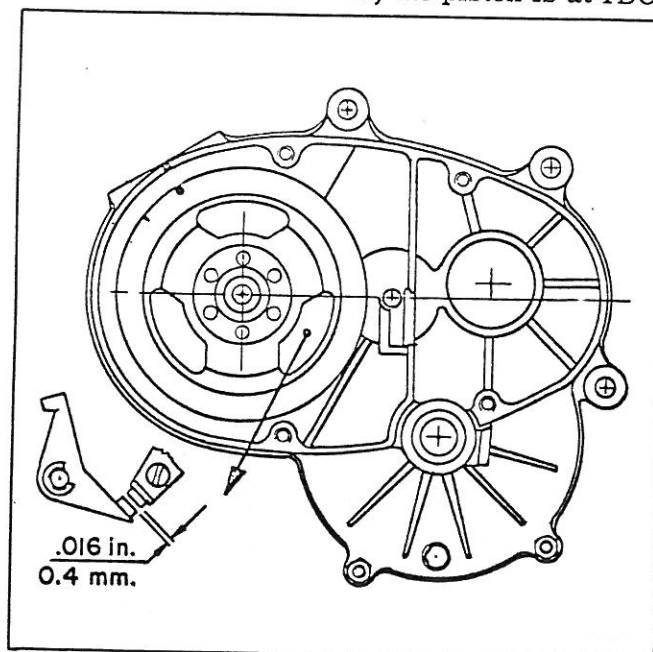

Figure 4.
4. Check the condition of the points and replace if necessary. Adjust the gap at the high point on the cam to .016 in. or 0.4 mm. (Figure 4).